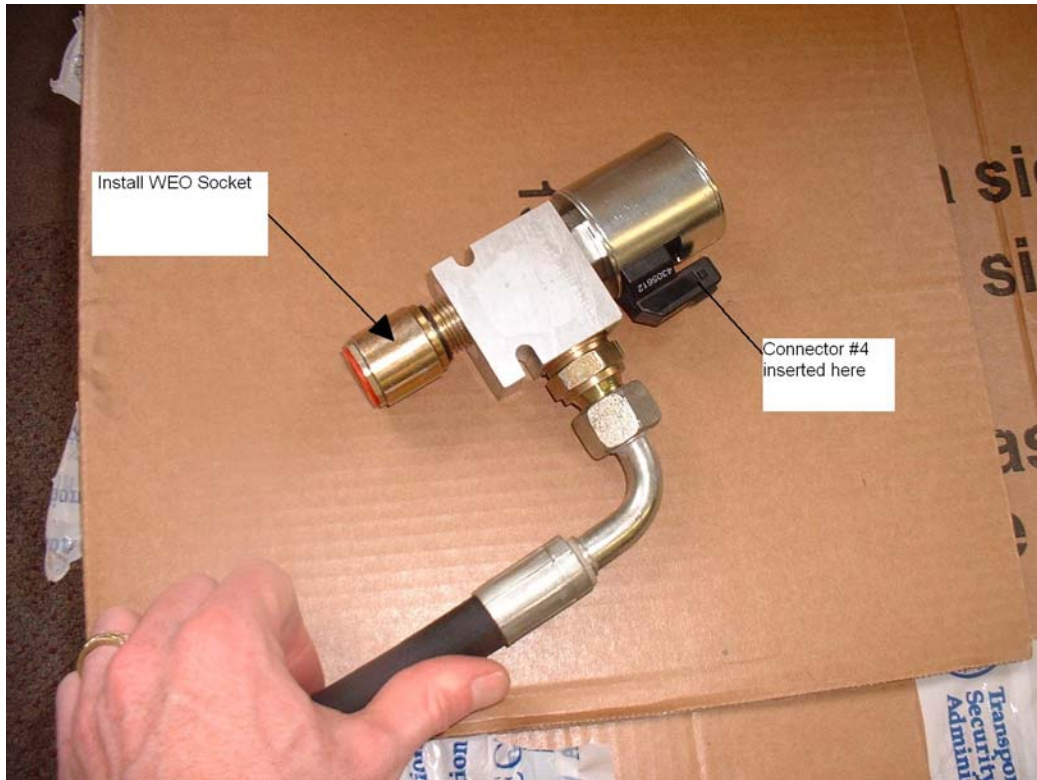

Figure 2. Shut Off Valve
2. Install WEO Socket in Shut Off Valve, shown in Figure 2 below.